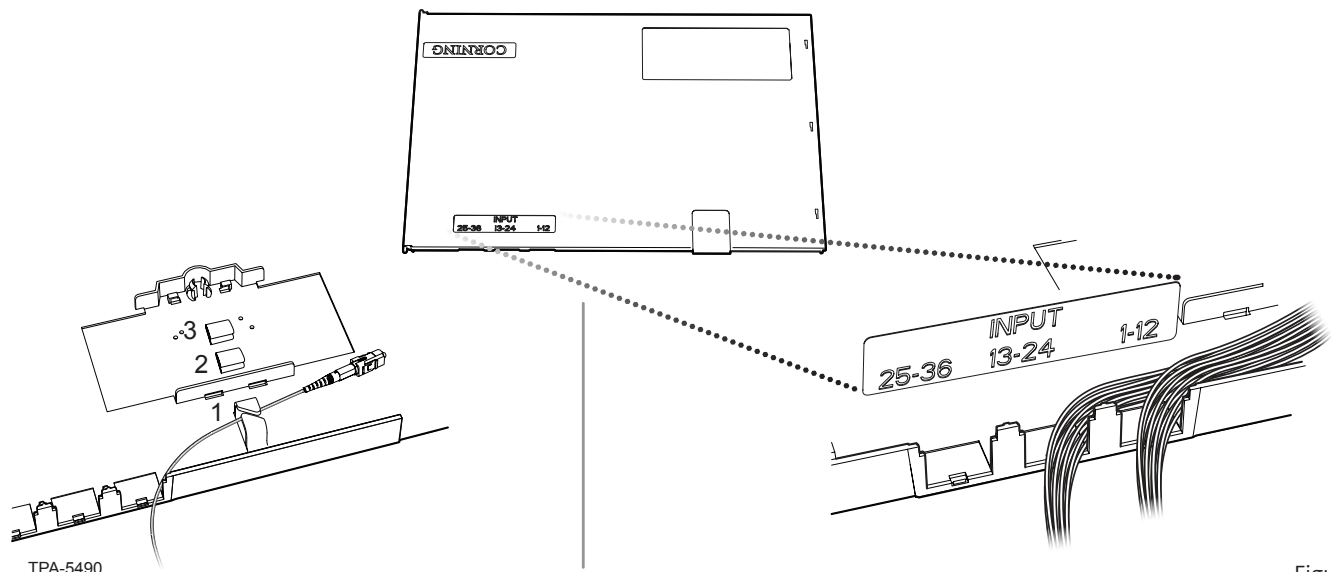

Figure 1
Step 1: Take note of the locations etched into the cover for the jumper inputs (Figure 1). Open the cover.